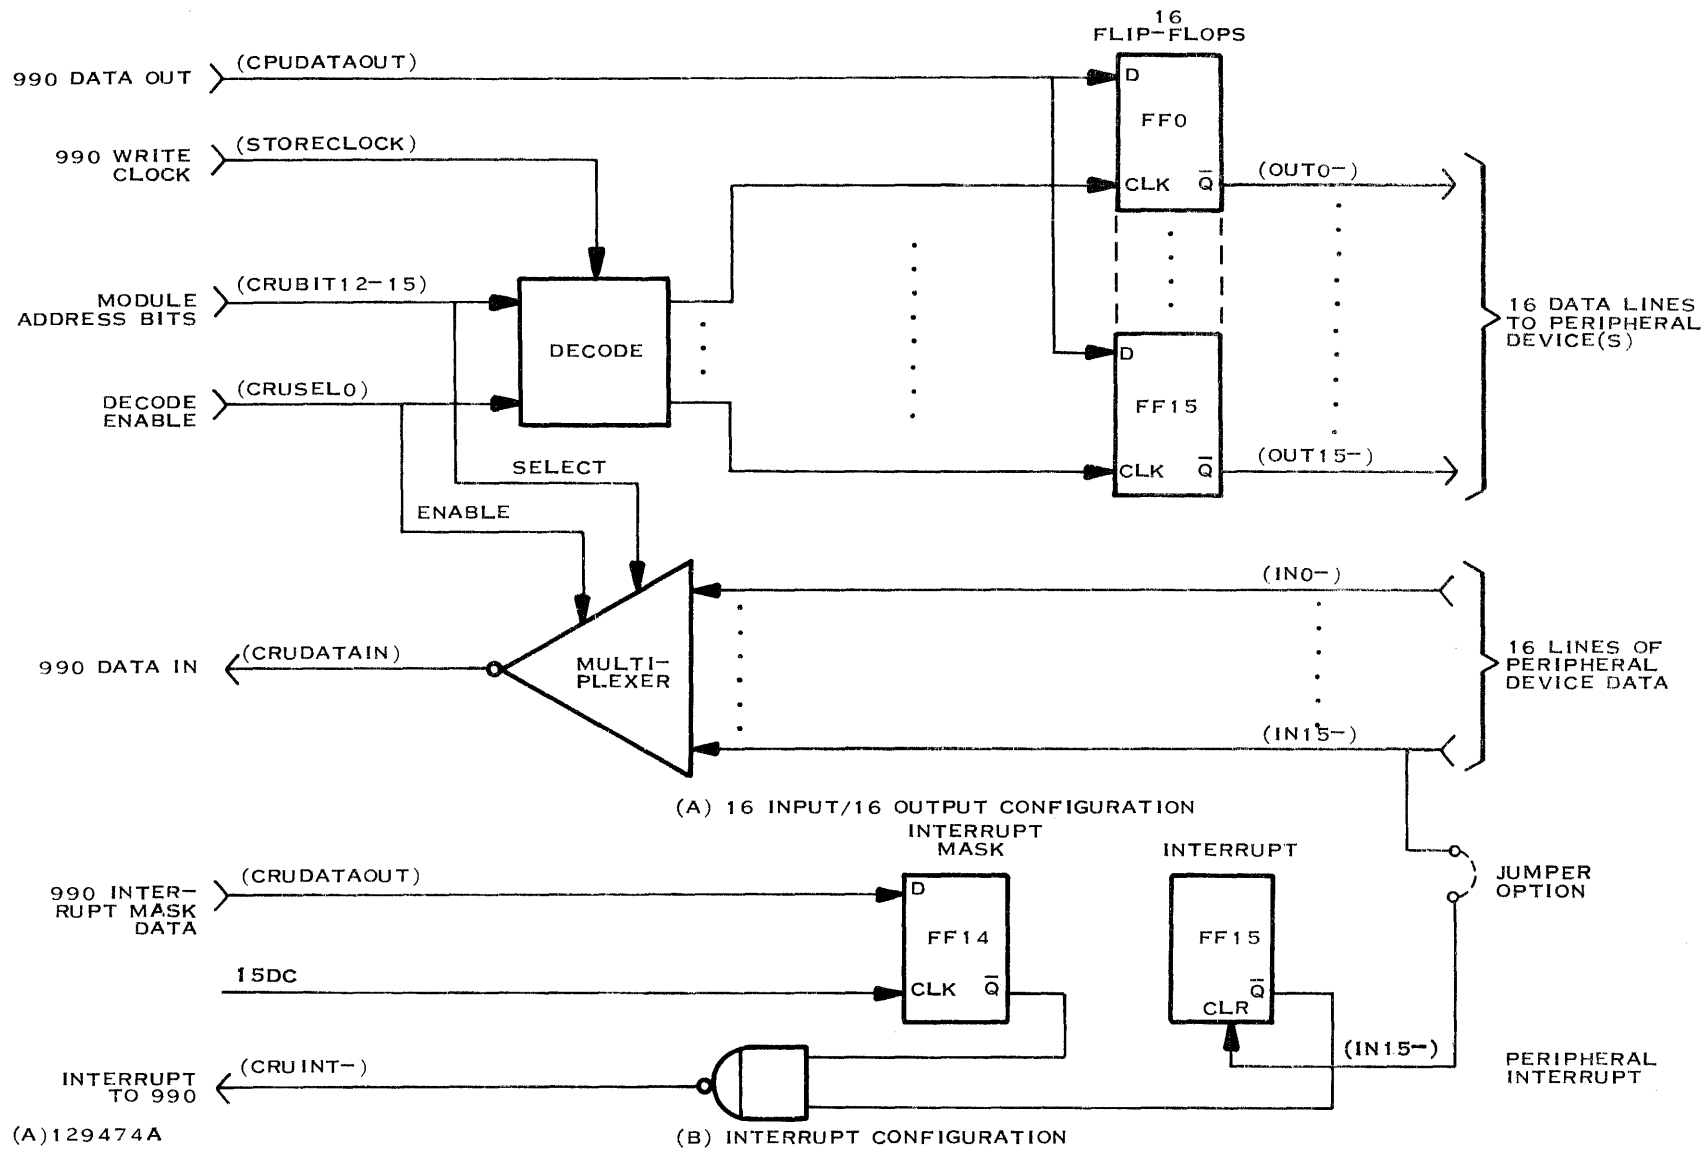

Figure 1-3. Simplified 16 Input/16 Output Data Module Diagram
Refer to figure 1-3 for a simplified diagram of the data module. The module contains 16 flip-flops that are used to hold the data supplied by the CPU and destined for some attached device. In the send mode, the CPU supplies output data, a write clock signal, an address that specifies one of the 16 flip-flops, and a module enable signal. All of these controls act to set or clear the selected flip-flop to establish an interface with the attached device. In the receive mode, the CPU provides a select address and a module enable signal to read one of 16 input lines.
1.2.1 TRANSMIT MODE. In the transmit mode, the CPU supplies an address (CRUBIT12-15) that specifies 1 of the 16 flip-flops, the module enable signal (IMODSELA-), a write clock signal (STORECLK-), and the data bit (CRUBITOUT-). When IMODSELA- and STORECLK- are both TRUE (logic 0), the address decoder uses the address to select one of the 16 flip-flops and the data bit is gated into it, through an open-collector driver, and out on the selected line. See figure 1-3 for the output logic.
1.2.2 RECEIVE MODE. In the receive mode, the CPU supplies the line address (CRUBIT12-15) and the module enable signal (IMODSELA-). The line address is decoded by the multiplexer and, when IMODSELA- is true (logic 0), the input bit is gated through an emitter-follower transistor on the selected line, inverted three times and submitted to the CPU as CRUBITIN-. See figure 1-3 for the input logic.
1.2.3 INTERRUPT RESPONSE. Interrupt handling is selected by wiring the jumper options as shown in Section II. Both types of interrupts (low-to-high and high-to-low) provide 15 normal input lines, 14 normal output lines, an interrupt line, and an interrupt mask. When an interrupt occurs, it is input on line IN15-. The signal is inverted either once or twice (depending upon the type of interrupt the module is wired for), submitted to a differentiating network, and clears the interrupt flip-flop. If interrupts are enabled by the CPU (determined by the interrupt mask), the interrupt is inverted three times and submitted to the CPU as a low signal. See figure 1-3 for the interrupt logic.